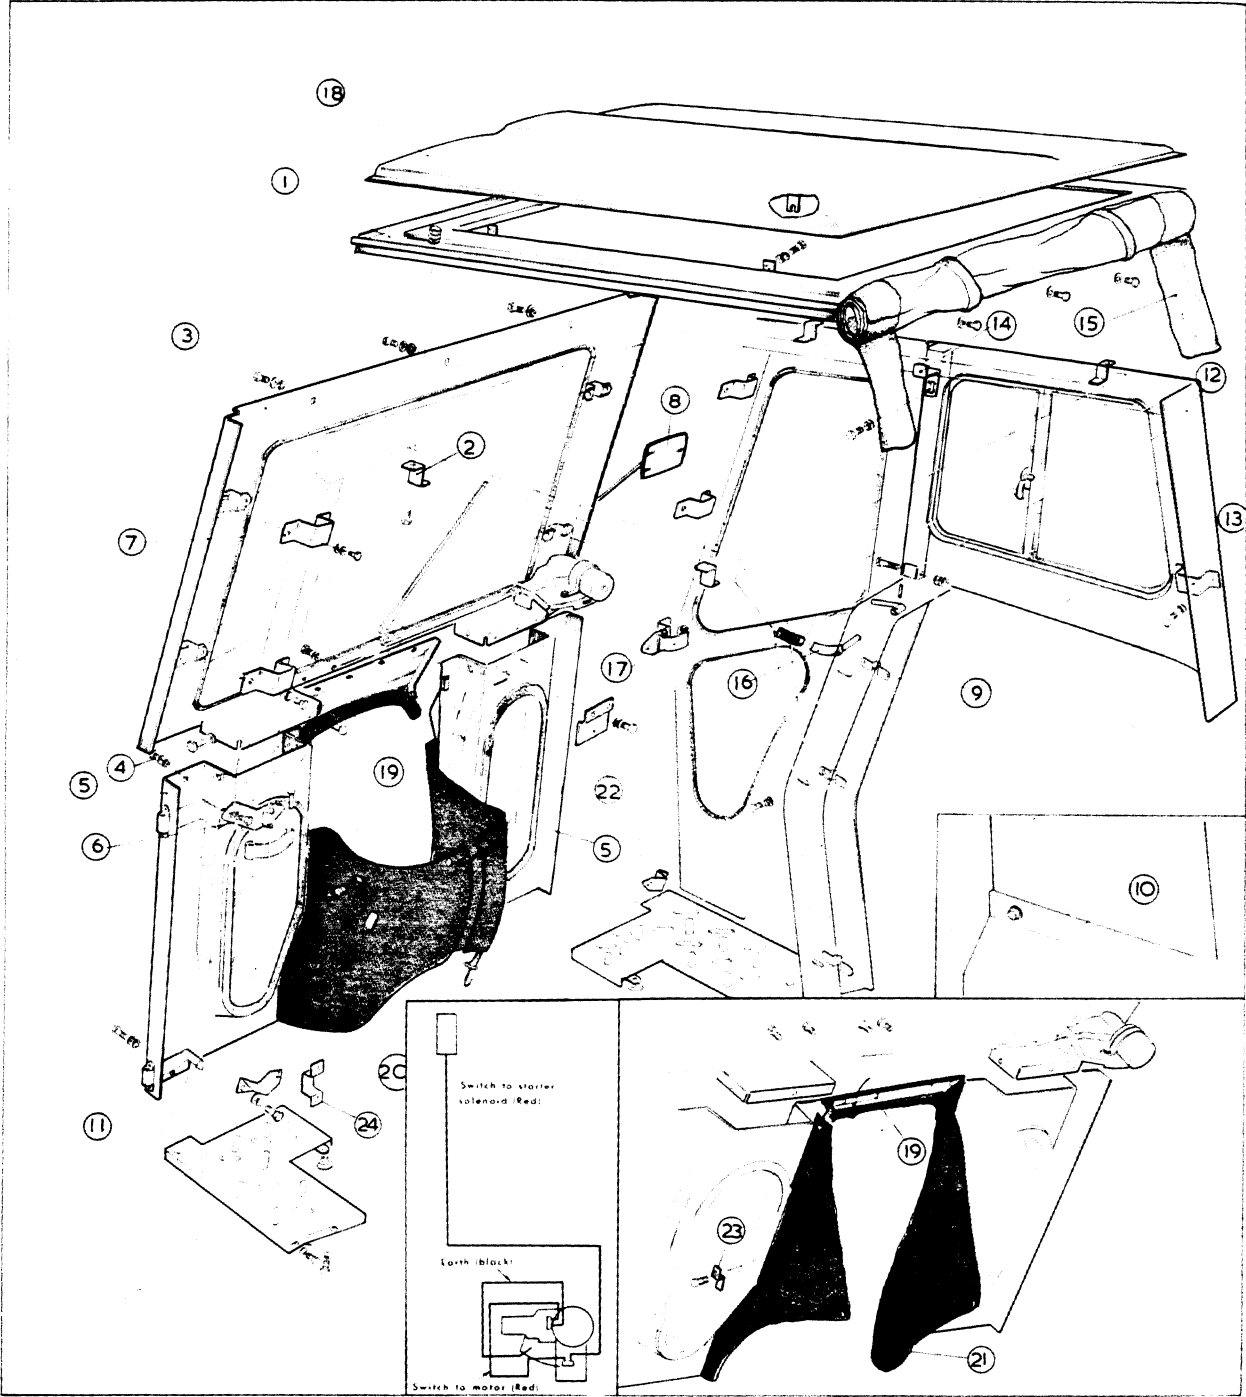

FIG. 4
2. Fig. 4. Position the roof rail (1) on the top of the safety frame, ensure that the narrow groove is on the underside and that weld nuts are situated to the front and rear. Assemble four 'Z' retainers (2) to secure the roof rail to the safety frame. Use four $\frac{1}{4}$ UNC x $\frac{5}{8}$ in bolts and nuts, together with plain washers and spring washers. Assemble with nuts at the top and both washers under each nut.